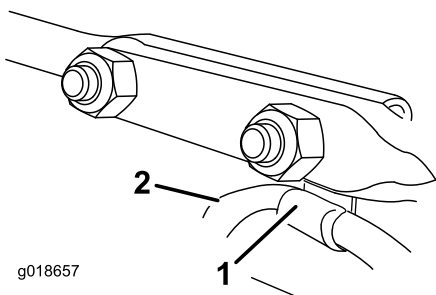

Figure 16
6. Insert the cable clip that supports the deflector cable onto the forward carriage bolt, and secure the carriage bolts with locknuts from the loose parts bag (Figure 16).